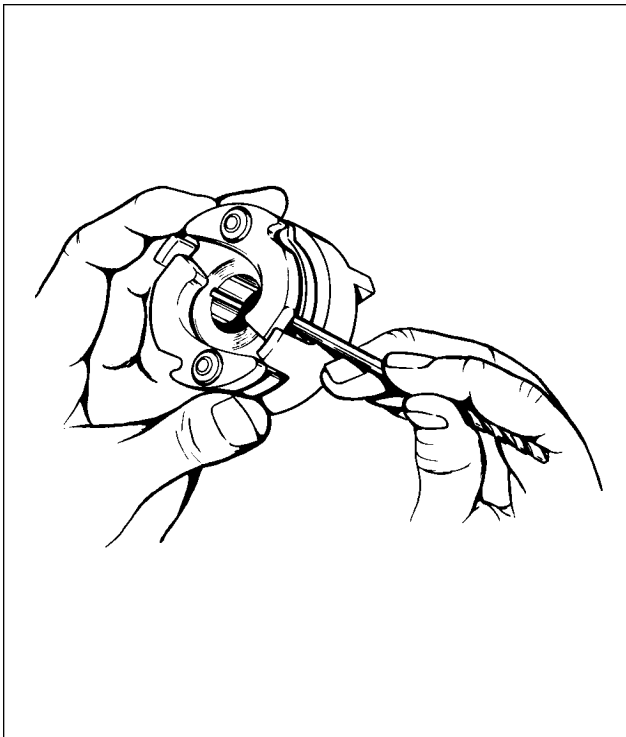

Figure 74-6. Rotor Holding Tool Installed
- B. Loosen the nut securing the drive plate to the magneto shaft sufficiently in order to install the Bendix 11-8465 Rotor Holding Tool under the nut and flat washer as shown in Figure 74-6. Tighten the nut enough to hold the tool securely.
- A. Install the Rotor Holding Tool 11-8465 under the drive shaft nut and washer as shown in Figure 74-6.